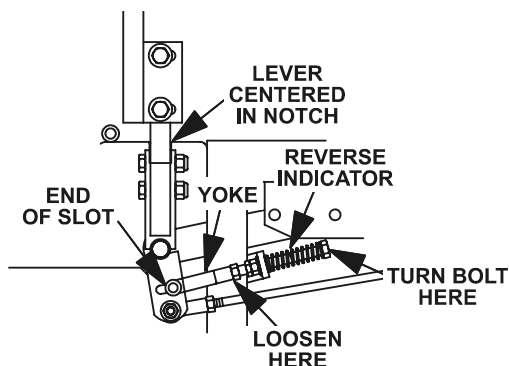

FIGURE 15
- c) Begin with either the left or right motion control lever. Move lever to the neutral position and pull lever back until the clevis pin (on arm below pivot shaft) contacts the end of the slot (just beginning to put pressure on spring), See Figure 15.